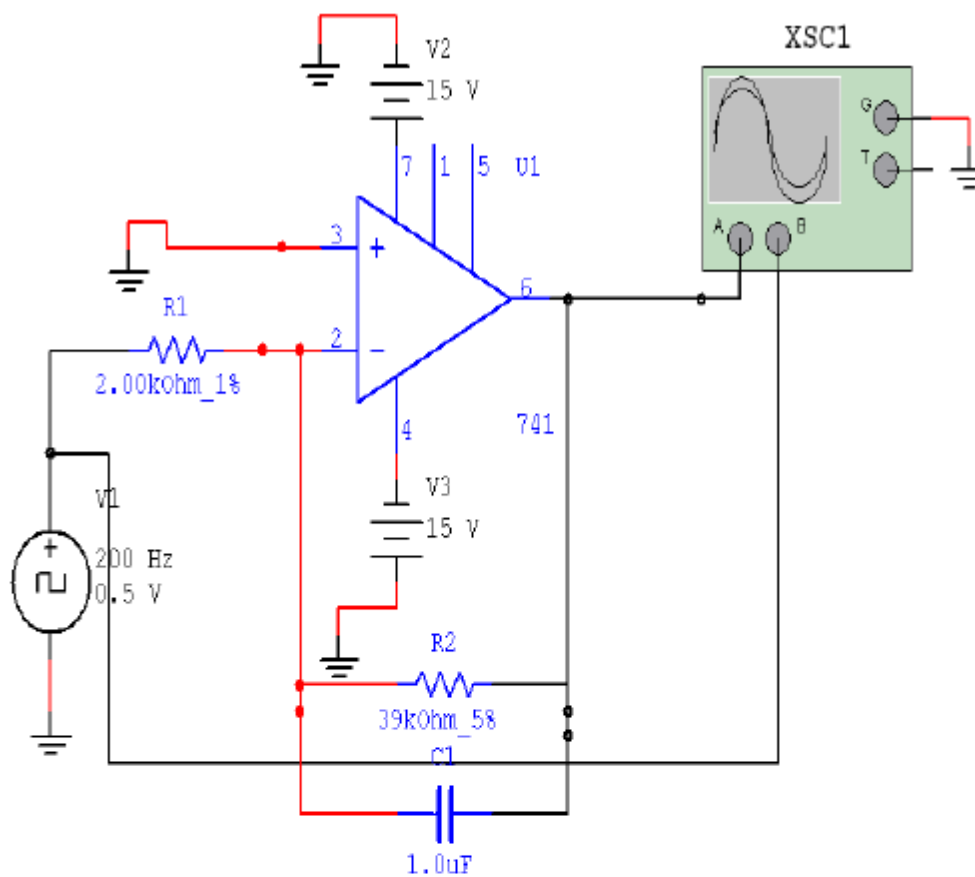

Fig.20 Integrating Operational Amplifier
- Construct the circuit shown in Fig.20.